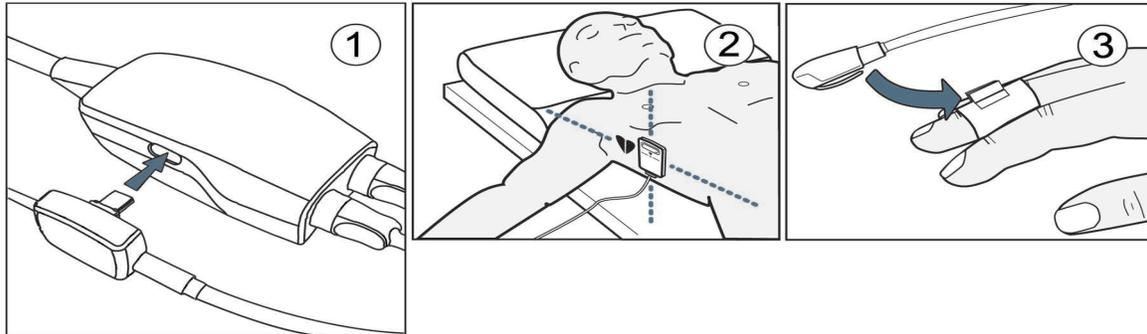

Figure 11-4 Heart reference sensor application
- 1 Connect the HRS to the pressure controller. See ① in figure 11-4.
- 3 Apply the heart end of the HRS to the patient at phlebostatic axis level by using an HRS clip. See ② in figure 11-4.
- 4 Attach the other end of the HRS to the finger cuff. See ③ in figure 11-4.